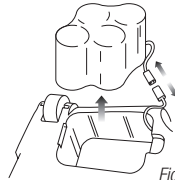

Fig. 11
- 4 Carefully lift out the battery pack and disconnect the wire terminals by pressing on the latch and pulling apart the wire terminal connectors. Remove the battery pack. (Fig. 11)